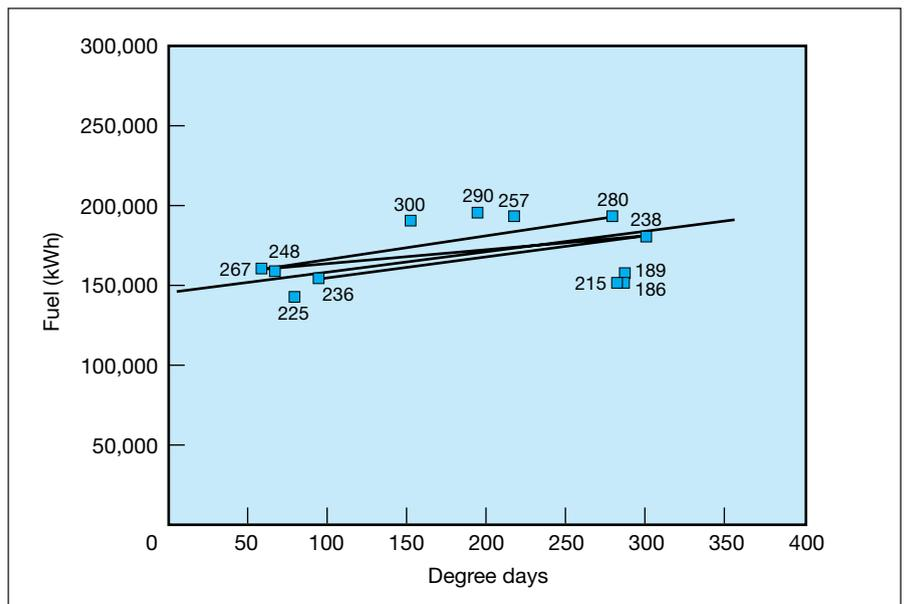

Fig 12 Energy vs. degree days
- Take the variable that covers the widest range of values first (we will call this variable1). Plot energy as an x-y graph against this variable (Fig 12).
from the first graph (Fig 12) to calculate the predicted energy for each period from the value of variable1 (see table below).
The graph of energy vs. degree days is shown in Fig 12, with all the points marked with the production in the same month. It is not easy to draw a line because variations in production have quite a large effect on energy use. There is one pair of points far apart with similar production (236 and 238). Two other pairs are 267 and 280 which are joined by a slightly steeper line (this is expected because production is higher on the higher degree days), and 248 and 238 which are joined by a less steep line. This gives us some confidence that a line parallel to one joining the pair 236 and 238 will have a slope very close to the right value. If it is drawn through the average point it will be good for a best fit line.